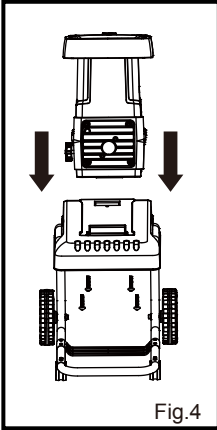

Fig. 4
- For convenient storage, the shredder unit can be put inside the collection box once disassembled. To do this, turn the shredder upside down and rest it carefully on the hopper. Remove the four screws holding the base to the shredder body unit as illustrated in Fig. 4.